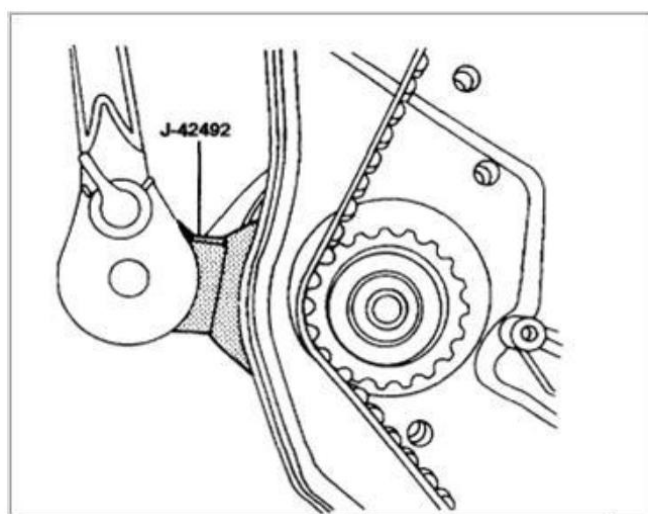

Fig. 5
- Rotate water pump anticlockwise, using special adjustment tool (OE: J-42492 or KM-421-A), to release tension on the belt (Fig. 5).